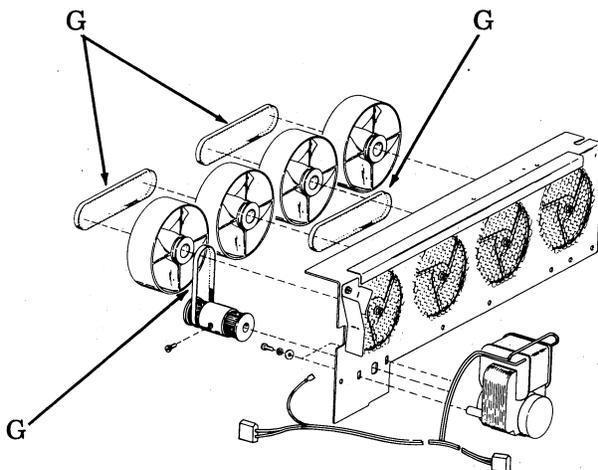

Fig. 4 — Lubrication of 401040 Belted-Type Fan Assembly
3.04 Cabinet, pedestals, monitors and OPCONs do not require routine lubrication except for required lubrication of early design belted-type fan assemblies associated with controller logic assemblies. See Fig. 4.